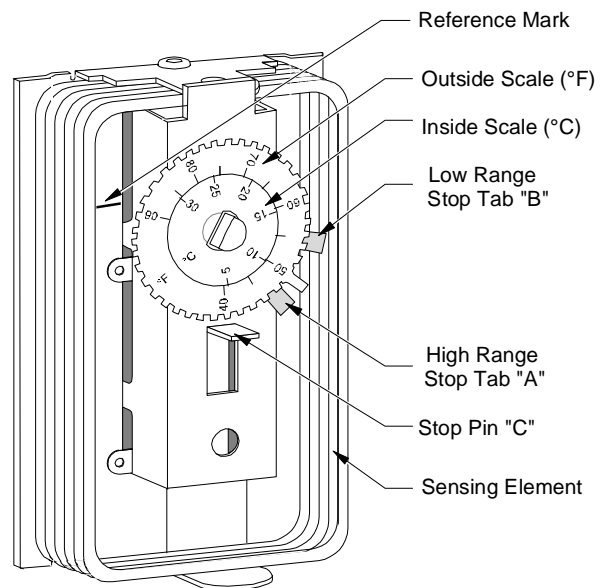

Figure 12: T26 Thermostat Range Tabs and Stop
For concealed dial models (with cover removed), the desired dial setting should be lined up with the reference mark on the base of the thermostat. (See Figure 12.) This will place the desired setting at the 9 o'clock position when the thermostat is held vertically.
4. While holding the dial firmly in place, keeping the setting in line with the reference mark, depress the tab "A" (see Figure 12) and rotate it clockwise until it is against the stop pin "C".
4. While holding the dial firmly in place, keeping the setting in line with the reference mark, depress the tab "B" (see Figure 12) and rotate it counterclockwise until it is against the stop pin "C".
4. While holding the dial firmly in place, keeping the setting in line with the reference mark, depress the tab "A" and rotate it clockwise until it is against the stop pin "C." Depress the tab "B" and rotate it counterclockwise until it is against the stop pin "C." See Figure 12.